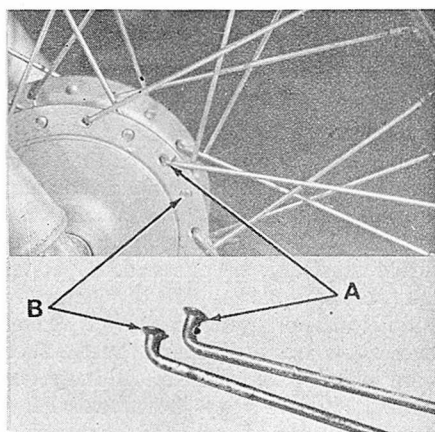

Fig. 2-52—Inner spokes (B) and outer spokes (A) may have different radius bend at head.
Most wheels are equipped with two different types of spokes, commonly called inner and outer spokes (Fig. 2-52). Outer spokes (A) tend to have more of a right angle bend while inner spokes (B) have a smaller angle bend. Inner and outer spokes are identical on some wheels but on units where the spokes are different they must be installed correctly.